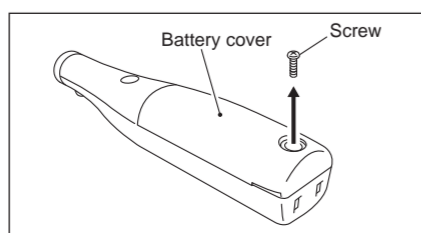

Fig. 15
- Remove the screw fixing the battery cover with a Phillips screwdriver. (Fig. 15)